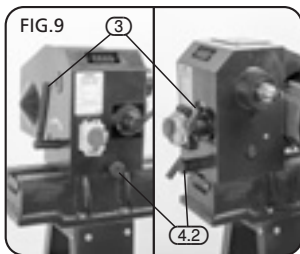

FIG.9
9.3 ROTATING THE HEADSTOCK - FIG. 9
Ensure that both the drive spur and live centre are clean and insert them into the lathe (see page 7). Place the workpiece between the centres and close up the tailstock (Fig.9) making sure the marked end goes the tailstock end.